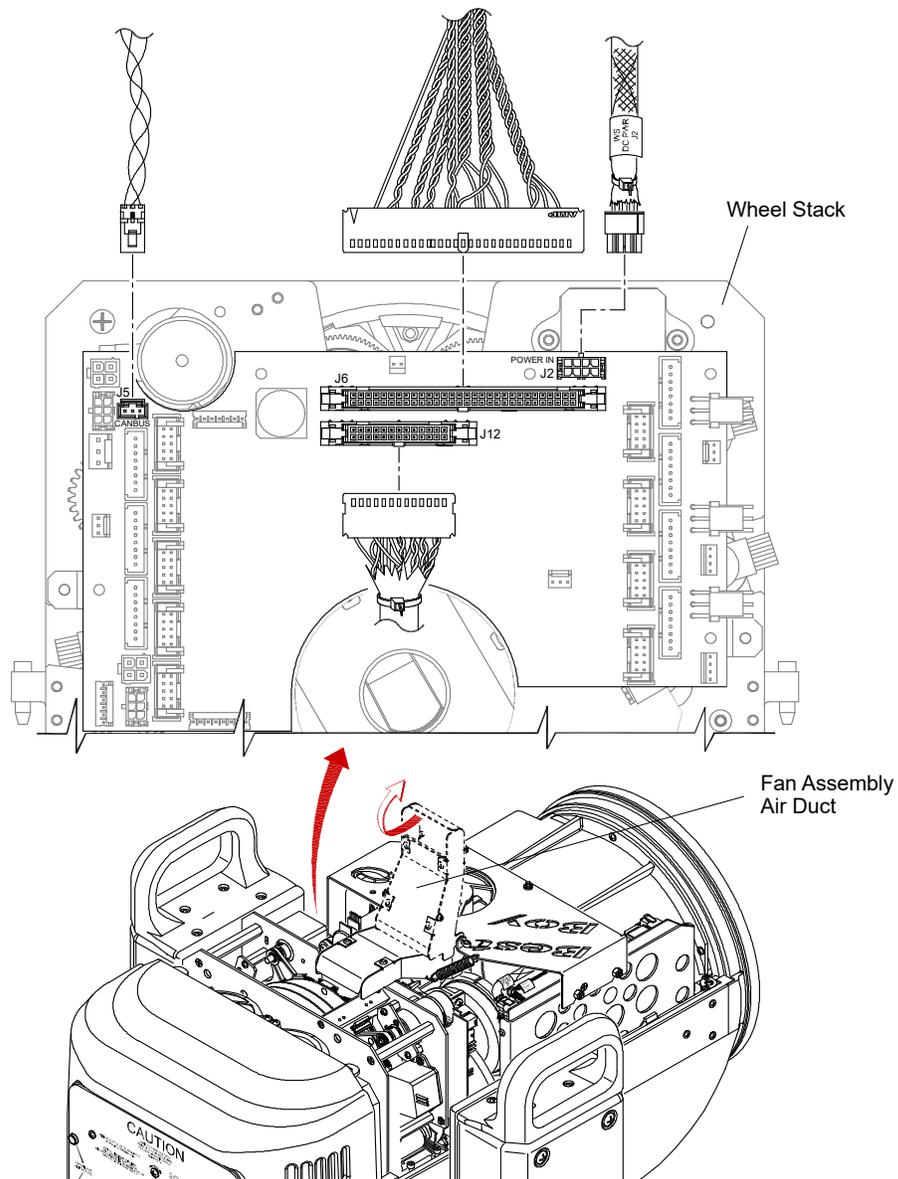

Figure 3-24: Disconnecting Wheel Stack Cables
- Step 3. Move Head Fan Duct to up position (**Figure 3-24**).